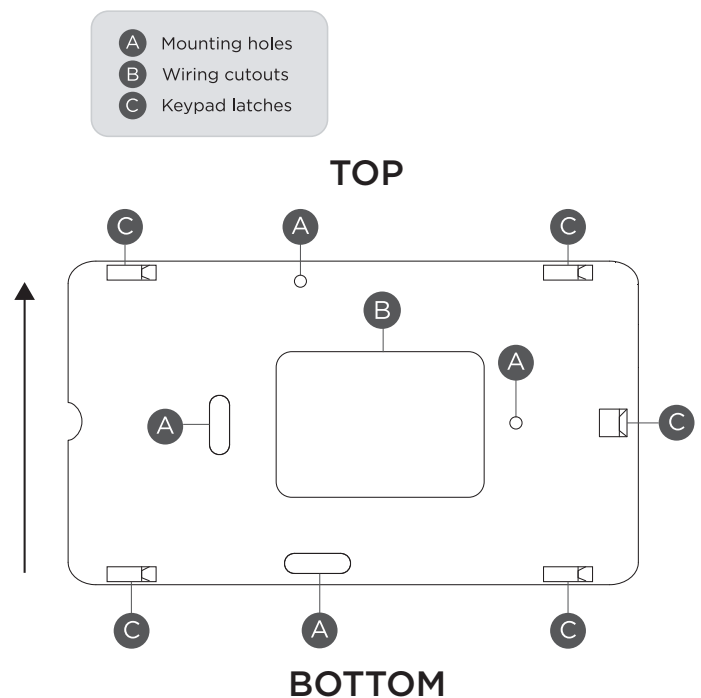

Figure 2: Mounting Hole Locations
3. Route the keypad wires through the cutouts in the base. See Figure 2.